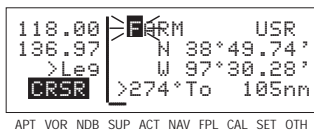

Figure 5-16
1. From any supplemental waypoint (SUP) page, turn on the cursor (CRSR). It will flash over the first character in the waypoint identifier field (figure 5-16).